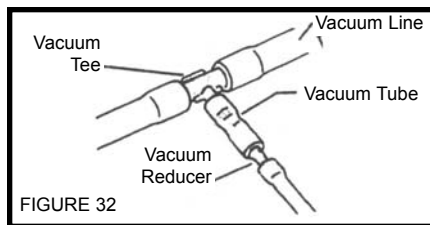

FIGURE 32
4. Existing Manifold Vacuum Line that can be cut into (DO NOT USED BRAKE VACUUM LINE) **Figure 32**